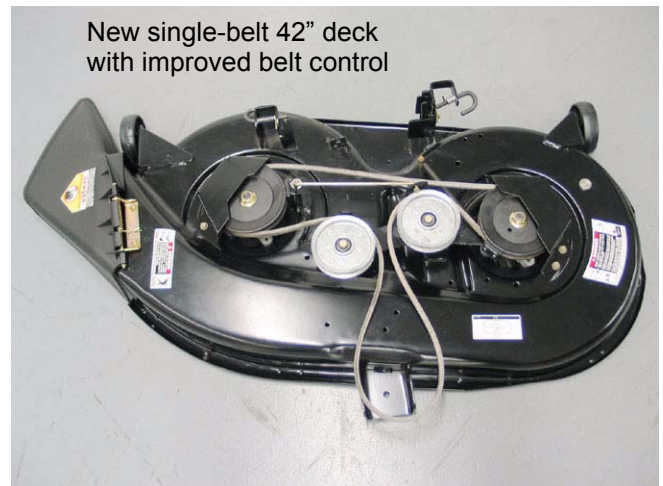

Figure 2.2
2.2. The new design features: See Figure 2.2.